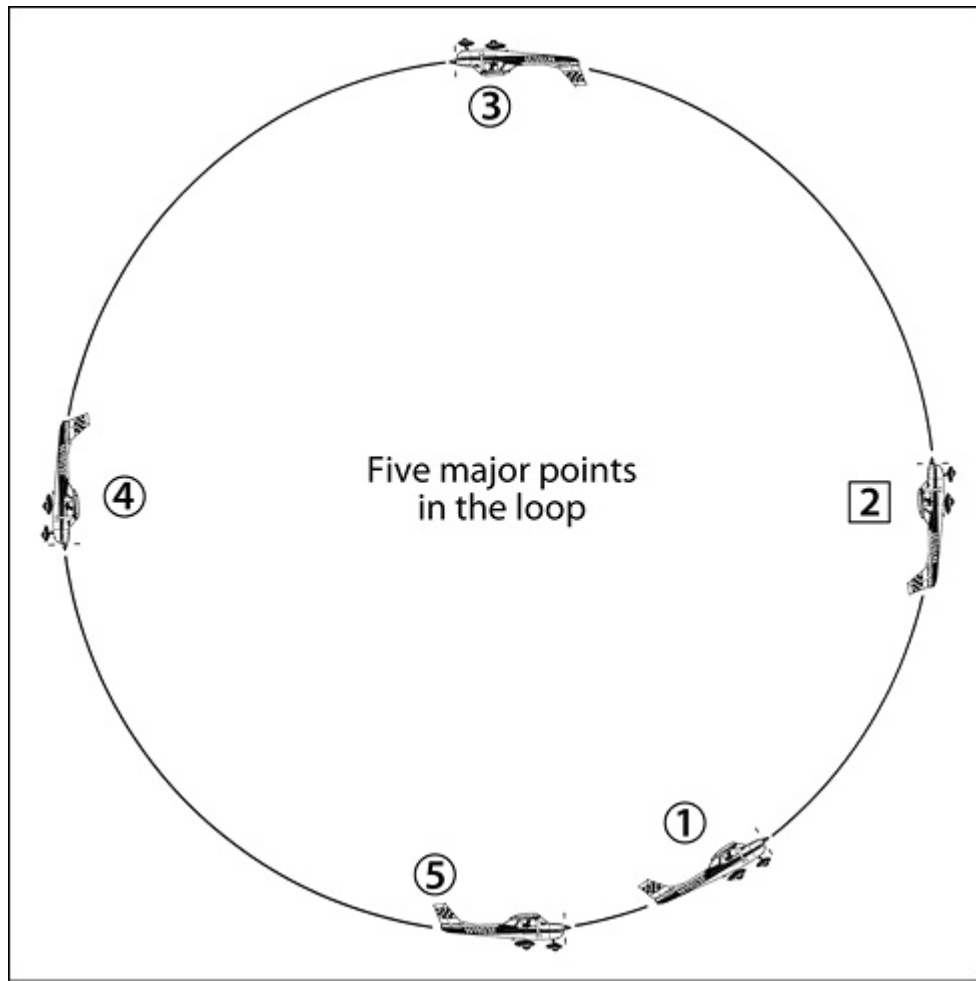

Figure 4-11. Five points for checking wing attitude during the loop.
There are five major points for checking the wing attitude in doing the loop (Figure 4-11). At point 1 the wings should be level, although some rugged individualists are already well banked by this time.
It's pretty easy to see where you stand at point 3 of Figure 4-11, because the horizon is a good reference. A correction should be made there if necessary. You will consider it very difficult to understand *which* way to roll to correct for a wing-down problem there, but you'll do what comes naturally when it's required. This is a good place to remember that the airplane flies relative to *you* when the controls are deflected, regardless of its flight attitude.
Checking the wing attitude at point 4 of Figure 4-11 is easy because the airplane will be pointing straight down at the pre-chosen road. (If possible, always line up over a long straight stretch of road for practicing loops, Cuban eights, and cloverleafs.) The power should be reduced at this point.
When the airplane is at point 5 of Figure 4-11, it's a little late to save the maneuver, but you still should check it because it's good for air discipline, and if the loop is to be followed by another maneuver (particularly another loop), the proper wing attitude should be looked at here.
4. Inadvertently applying aileron as back pressure is being exerted on the pull-up, so the lateral axis does not stay parallel to the horizon—the airplane is *banked*. In the inverted position the wings should be parallel to the horizon. Later you'll be able to correct for any deviations handily. Again, indication of good control of wing attitude is encountering your own wake turbulence as the loop is completed. If, at the vertical nose-up position, you miss the results of an asymmetrical pull (Figure 4-12) or don't level the wings when inverted, you can usually tell which way the error was induced at the point indicated in Figure 4-8I. (Point 4 in Figure 4-11.) If you have to roll the airplane *left* at that point to make the wings perpendicular to the road reference, then the *left* wing was down during the pull-up. That is, during the pull-up, left aileron was inadvertently used. Conversely, right aileron on pull-up would require a correction by a slight right roll at the vertical nose-down position.
8. Applying too-abrupt back pressure on the back side of the loop so that buffeting or a stall occurs. This usually occurs between points 3 and 4 in Figure 4-11.